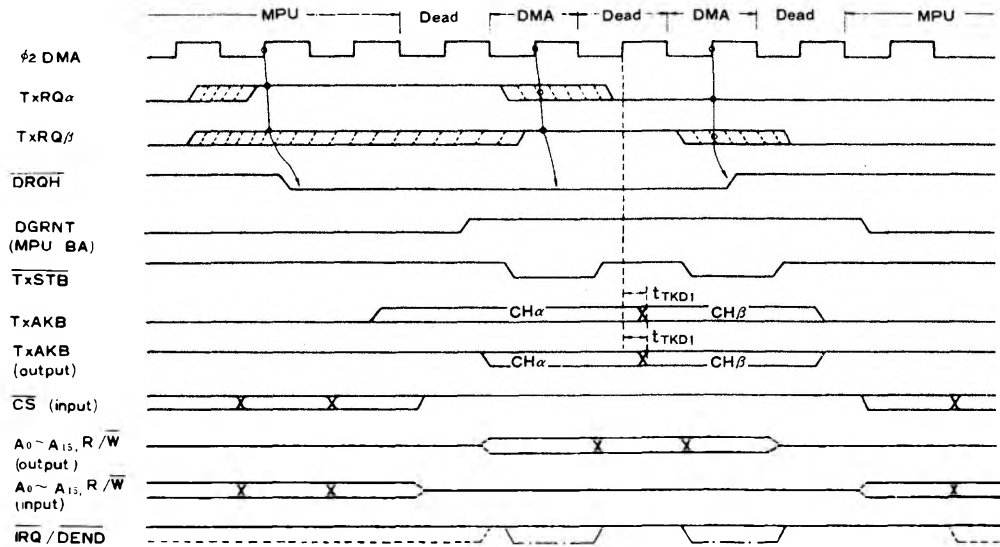

Figure 23 Channel Change (HALT Mode → HALT Mode)
- (1) From HALT mode to HALT mode (Fig. 23)